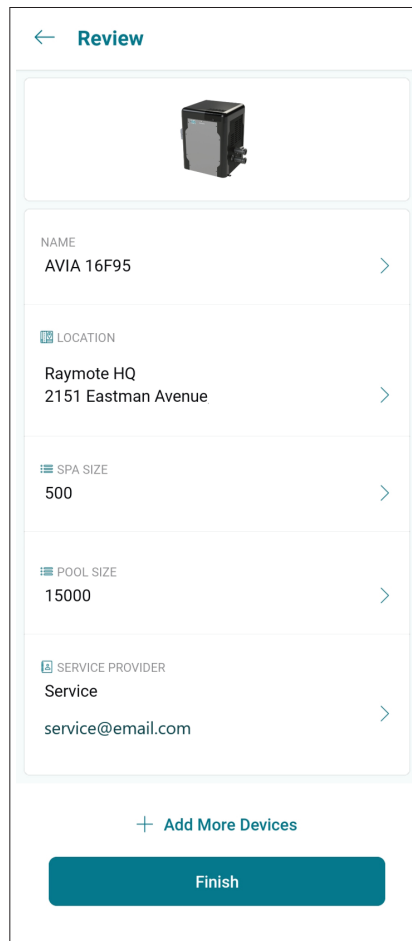

Figure 97. Device Setup Review
3. During device configuration, basic reference information about the heater will be requested, including service provider, site location, Pool and Spa size. See **Figure 97**.